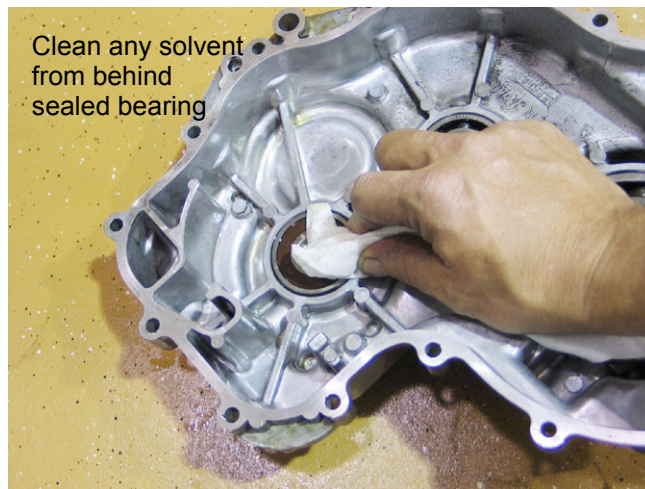

Figure 9.32
9.32. Be certain to remove all of the cleaning solvent before heating the housing or reassembling the transaxle. See Figure 9.32.